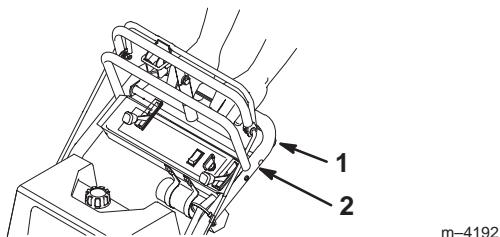

Figure 17
4. At the same time engage lower control bar and lift up on handle (Fig. 17 and 18).